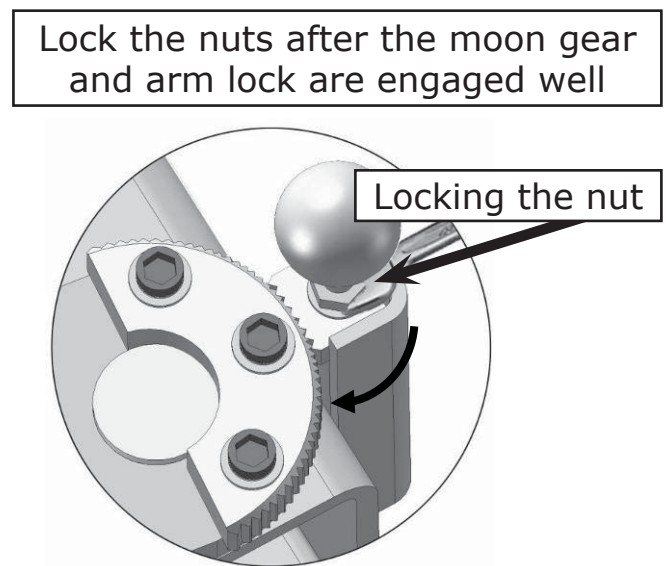

Fig. 25
4. Adjust the moon gear and arm lock so that it meshes and then tighten the nut on the arm lock (See Fig. 25).